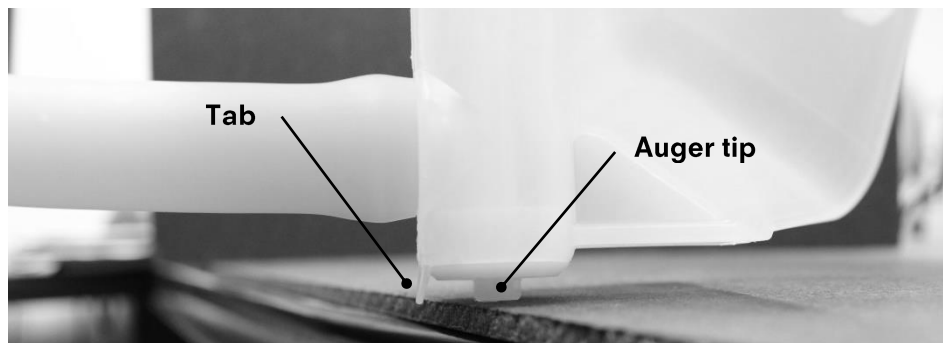

Figure 14: Remove the auger (option 2)
- a. Hold the hopper so that the exposed tip of the auger at the front of the hopper is on the countertop with the small tab hanging over the edge of the counter. (Figure 14).